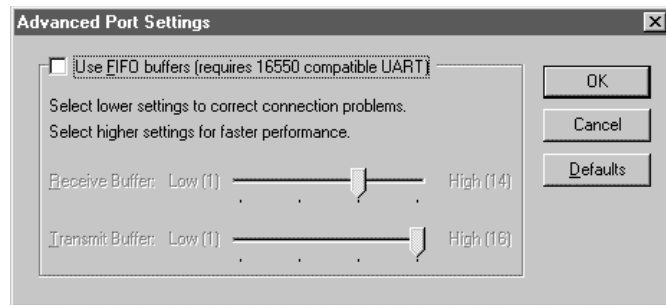

Figure 8-5: Advanced Port Settings Dialog Box
13. Next, select the Advanced button to bring up the advanced port settings dialog box shown in Figure 8-5.